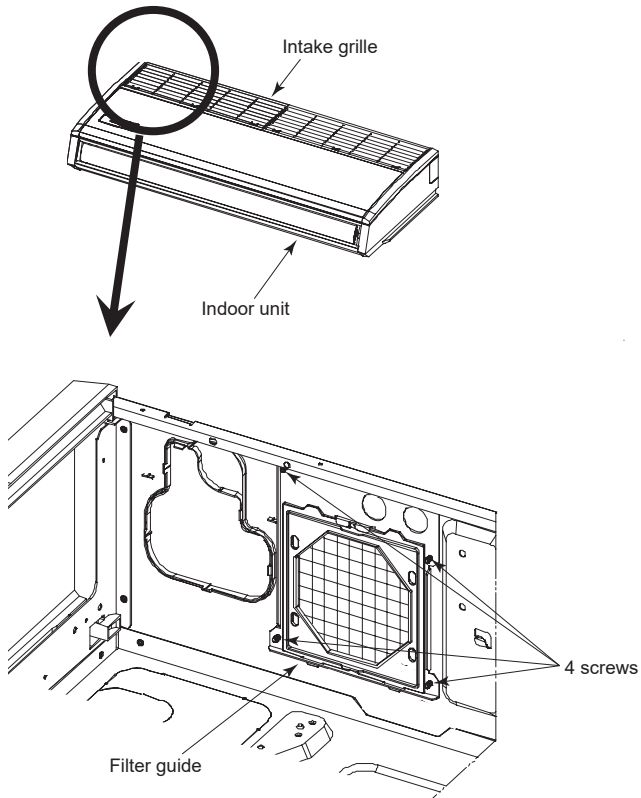
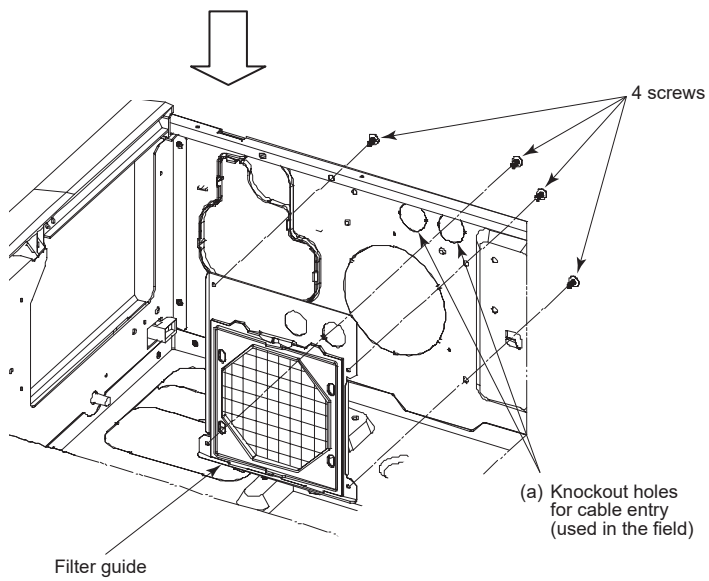

Fig. 6-6
Fig. 6-7
- \* Fig. 6-6 and Fig. 6-7 show the state where the intake grille was removed.